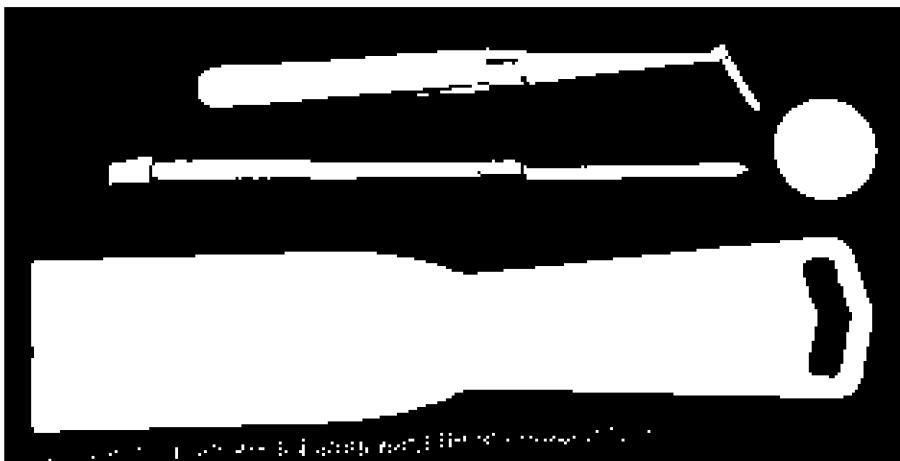

Figure 8-3:
- ✓ **A small Phillips screwdriver:** Like the other screws in the Mac mini, the screws that hold the optical drive are tiny. A jeweler's #0 Phillips screwdriver works best. You can pick one up at an electronics supply store, such as Radio Shack, or at most hardware stores. Figure 8-3 shows one sitting next to a quarter.
- ✓ **Bent-nose forceps:** If you can find one, I highly recommend using a pair of these special tweezers, also shown in Figure 8-3. They're great for lifting the screws out of their holes after you unscrew them, and even more useful for holding the tiny screws as you replace them. You can find bent-nose forceps in electronics and hobby stores.
- ✓ **Plastic putty knife:** You need one of these for unplugging the drive connector. The one in Figure 8-3 set me back a whole dollar.